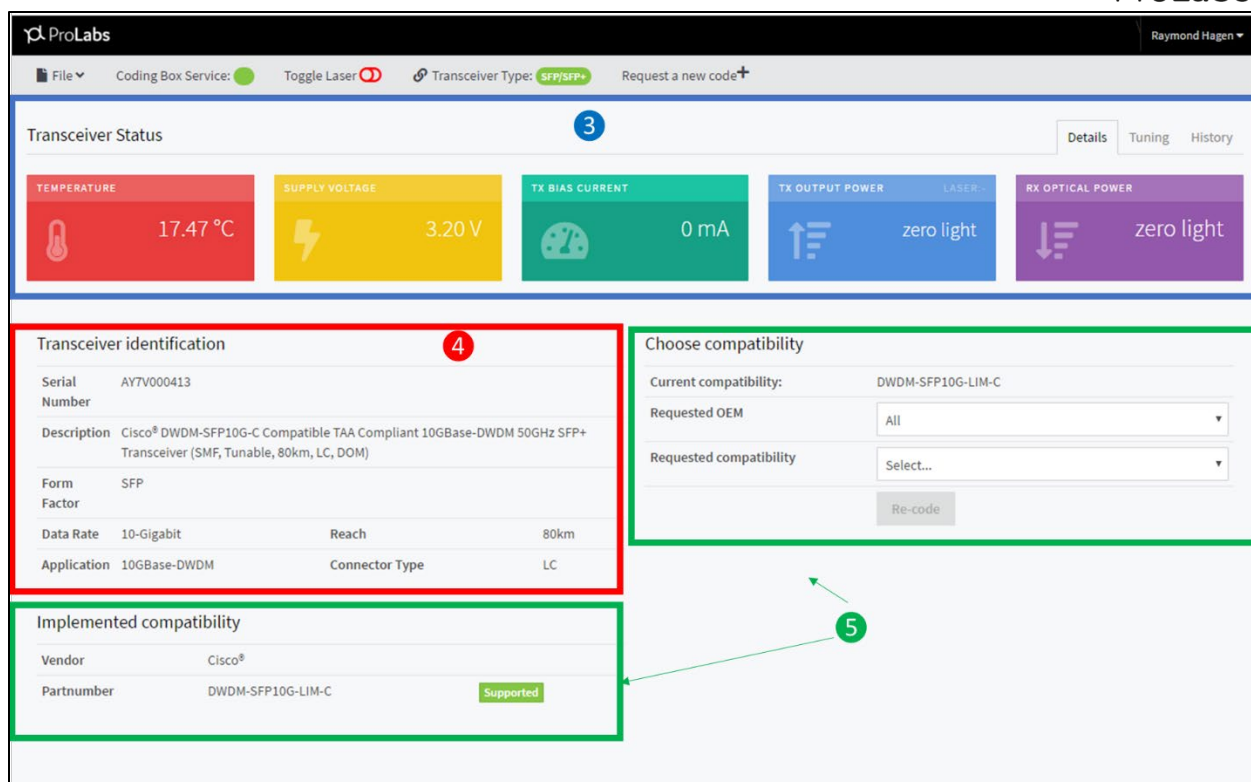

Figure 7 – ProTune™ Application Interface
- 2) Upon inserting a ProTune™ compatible transceiver into the appliance, the application interface will display key properties for each transceiver. Figure 7 highlights the transceiver attributes highlighted.